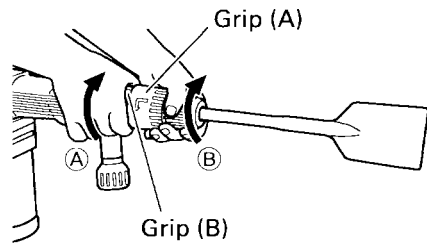

Fig. 4
- (1) As shown in Fig. 4, the blade angle can be freely changed if the grip (A) is turned in the direction of (B) in a state where grip (B) is turned 60 degrees in the direction of (A).